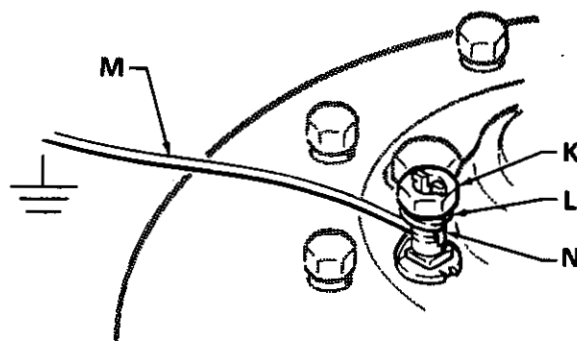

Fig 1
1. *Pump*: use ground wire and clamp as shown in Fig 1.
To ground the pump, loosen the grounding lug locknut (K) and washer (L). Insert one end of the ground wire (12 ga minimum) (M) into the slot in the lug (N) and tighten the locknut securely. See Fig 1.